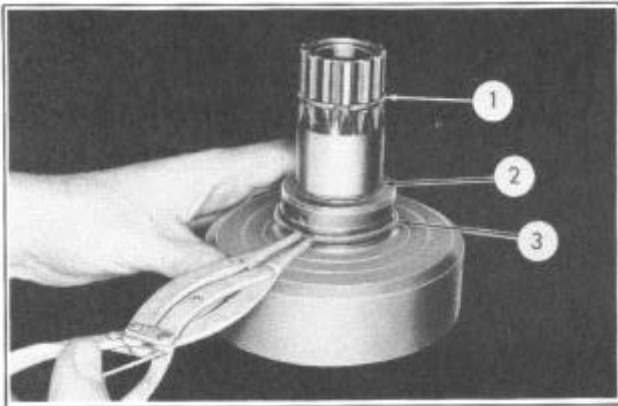

FIGURE 113
27. Remove the outer "O" ring seal (2), Figure 113, out of the groove in the hub of the rear ring gear. Discard old seal.